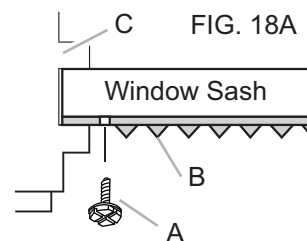
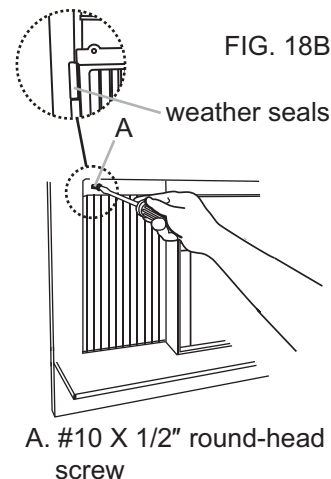

FIG. 18A
FIG. 18B
2. Use a 1/8" drill bit to drill a starter hole through the hole in the top leg of each window filler panel and into the window sash (Fig. 18A and Fig. 18B). Connect with one 10x1/2" screw.
3. If necessary, trim weather seals to needed length, peel off protective backing, and use to plug any gaps. See Fig. 18B.